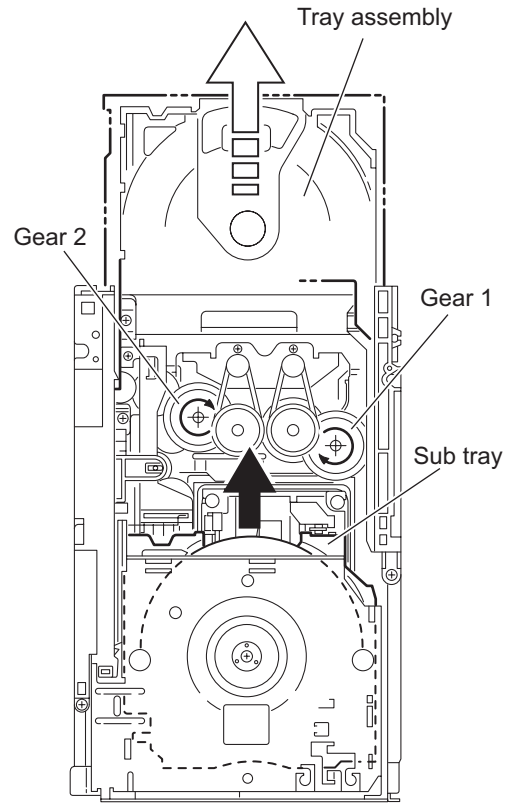
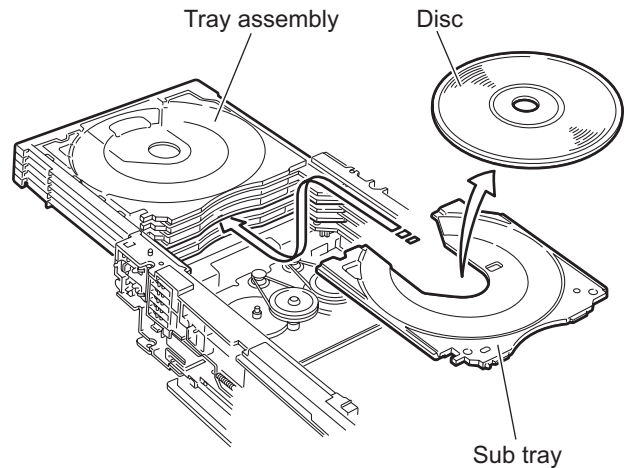

Fig.34
Fig.35
### 3.3.15 Taking out the disc in the play mode (See Fig.34 to 37)
- (1) From the top side of the DVD changer mechanism assembly, remove the top cover.
- (2) Unlock the tray assemblies and draw out the tray assemblies toward the front.
- (3) From the top side of the DVD changer mechanism assembly, turn the gear 1 clockwise to move the lifter assembly upward. (See Fig.34.)
- (4) Turn the gear 2 clockwise to move the sub tray remaining inside the lifter assembly toward the front, then pull out.
- (5) Take out the disc on the sub tray. (See Fig.35.)